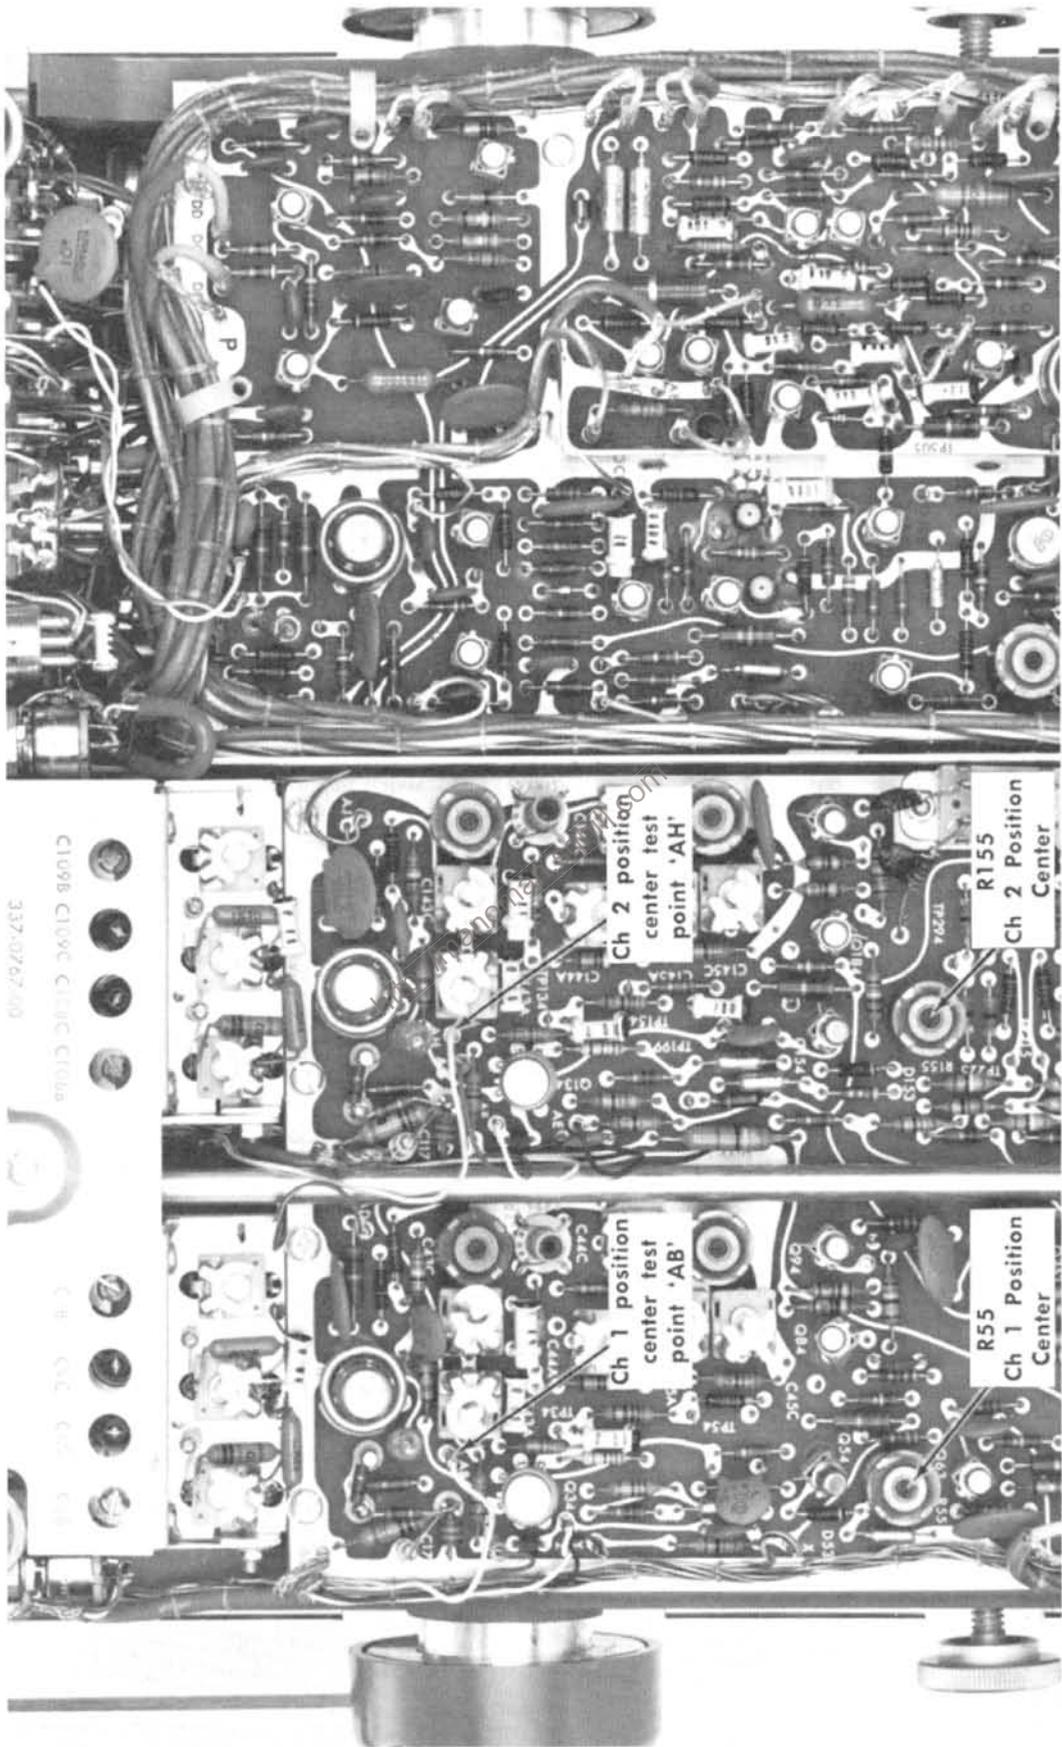

Fig. 6-19. Location of Channel 1 and 2 position center test points and adjustments (Vertical Preamp board).
- Connect the dc voltmeter to the Ch 2 position center test point (pin connector 'AH') on the Vertical Preamp board (see Fig. 6-19).
- Adjust—Ch 2 Position Center adjustment, R155 (see Fig. 6-19), to position the trace to the centerline.
- Connect the dc voltmeter to the Ch 1 position center test point (pin connector 'AB') on the Vertical Preamp board (see Fig. 6-19).
- Adjust—Ch 1 Position Center adjustment, R55 (see Fig. 6-19), to position the trace to the centerline.